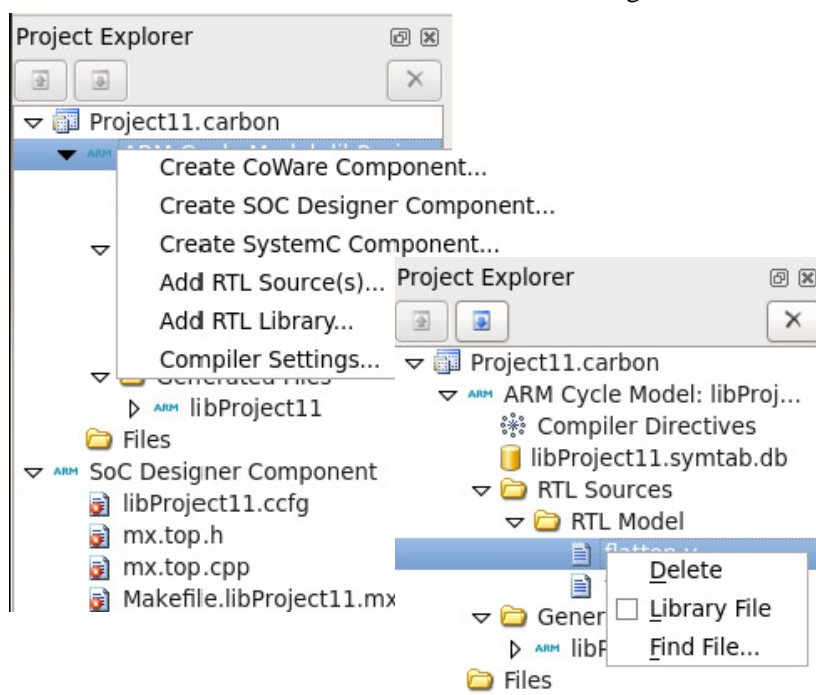

Figure 2-19 Project Explorer Context Menus
- Right-click an item to display a context-sensitive menu of available actions for that item, and select the action to execute it. This is shown in Figure 2-19.